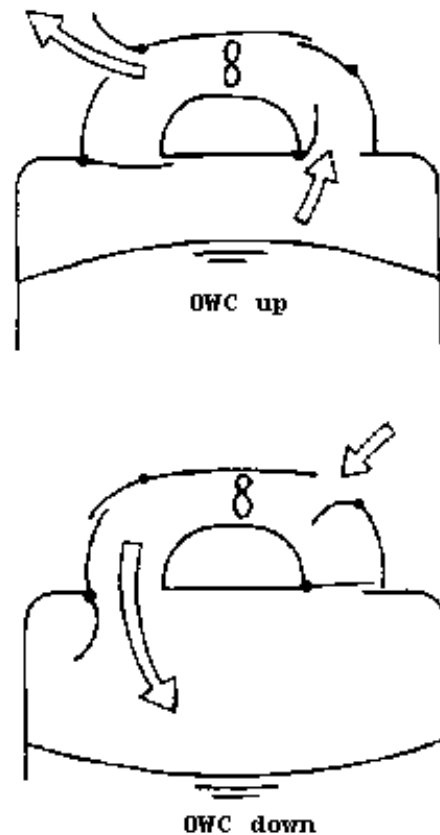

Figure 9
(8) Can the students think of a valve system that would direct air through the turbine on both strokes? One possible solution is shown in Figure 9